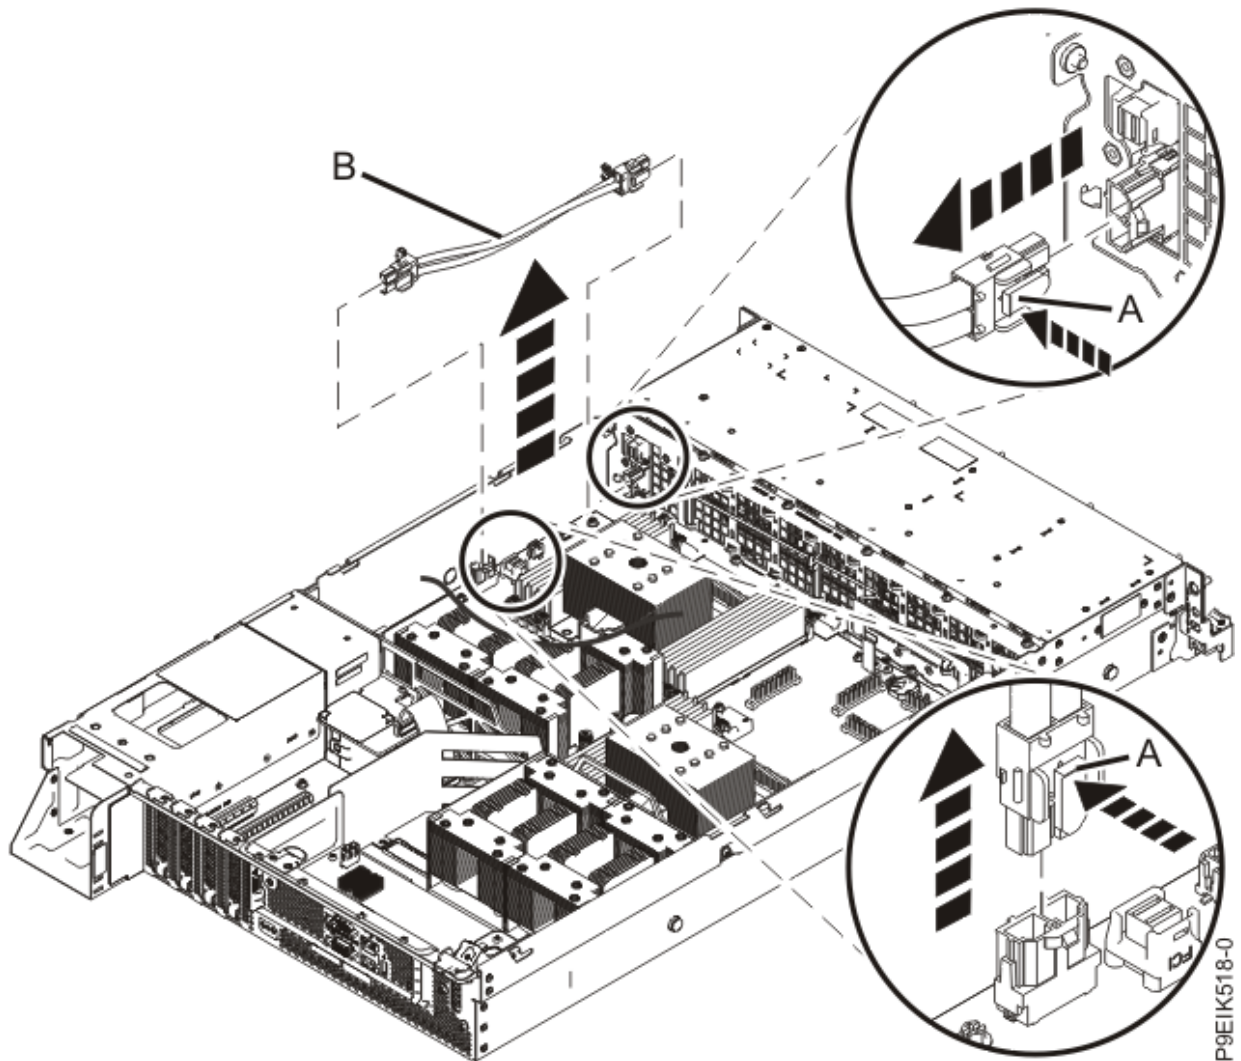

Figure 22. Removing the fan power cable from the system
3. Grasp the connector end of the fan power cable that is connected to the power riser. See **(A)** in Figure 22 on page 32.